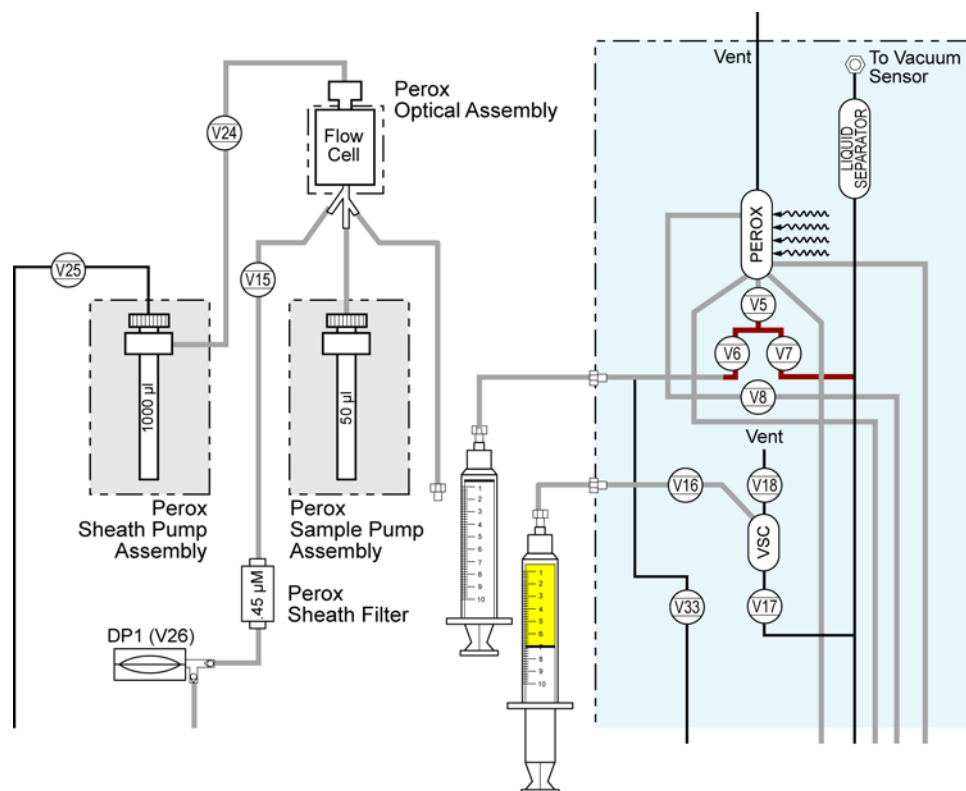

Figure 8. Two syringes connected to the Perox ports
18. Connect the other end of the tube to the Perox sample outlet port. See **Figure 8**.